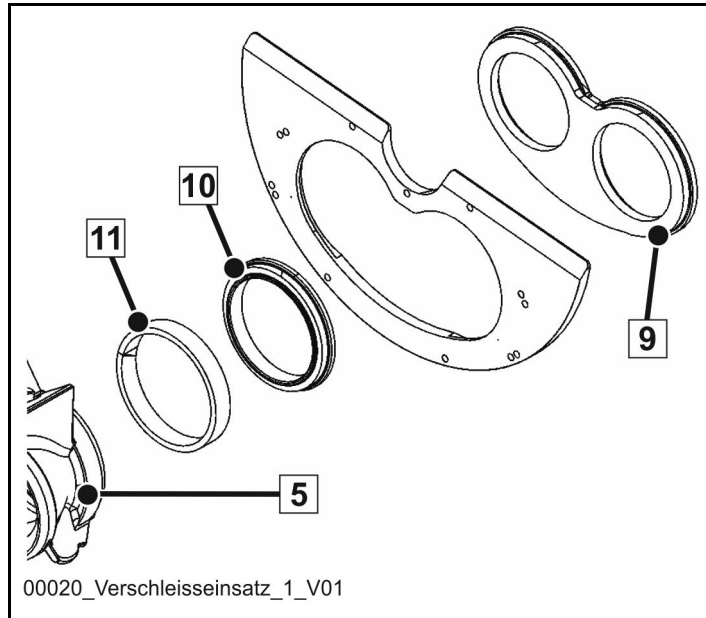
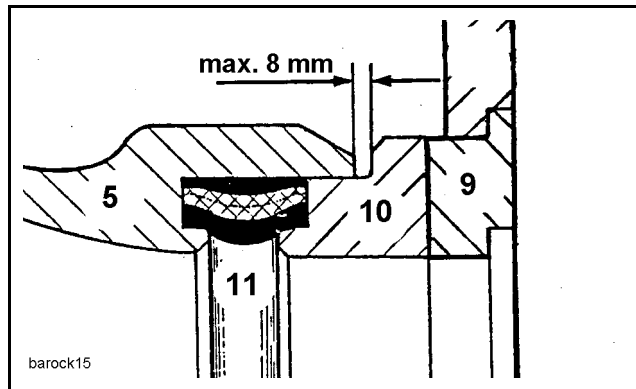

Fig. 175
Fig. 176
- Check the distance between the cutting ring (10) and the swivel head (rock) (5) (Fig. 175) and (Fig. 176) after each rotation. If it is more than 8 mm, the cutting ring is no longer guided securely in the rock and must be replaced.
- When replacing the cutting ring, check the condition of the wearing insert (9) and pressure spring (11) (**Fig. 176**).